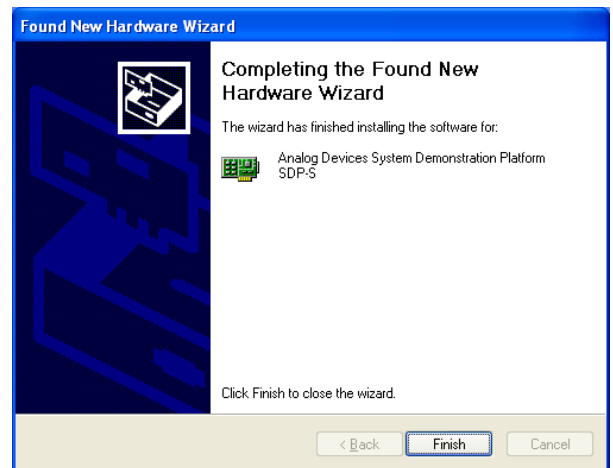

Figure 16. Windows XP SDP-S Board Driver Installation, Complete Installation
2. Connect your SDP board to EV-ADF4113HVSD1Z and to the USB port of the PC using the supplied USB cable. If you are using Windows XP, follow the steps in the Windows XP Driver Installation Guide section (see Figure 13 to Figure 16). If you are using Windows Vista or Windows 7, the drivers install automatically.